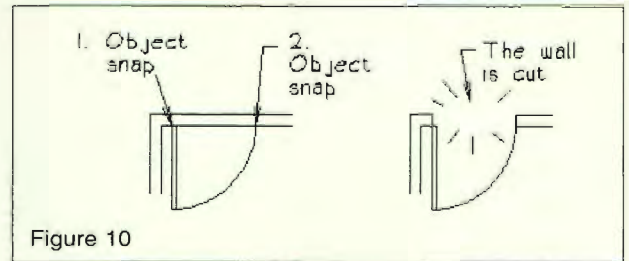

Figure 10
3. Object snap to the first corner of a door, at the hinge side, as shown as step 1 in Figure 10.
4. Object snap to the other side of the same door, shown as step 2 in Figure 10.